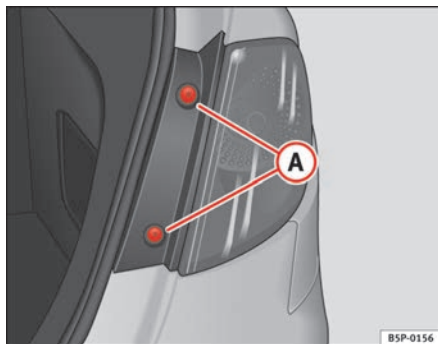

Fig. 184 Side lights and brake lights
- Remove the bolts ⇒ fig. 184 **A**.